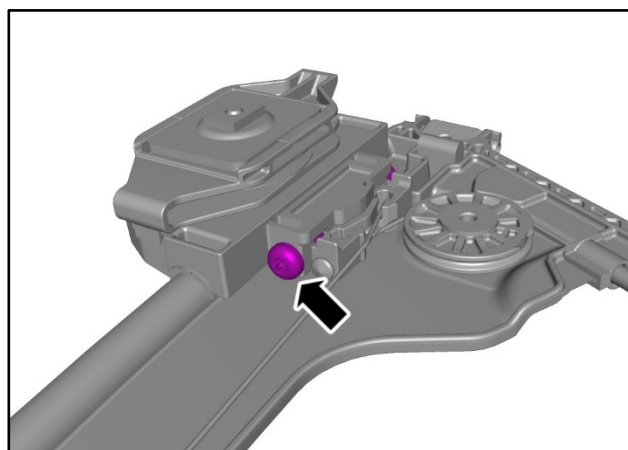

Figure 18
28. Fully tighten the vertical adjustment screw for the rear regulator cursor (refer to Figure 18).